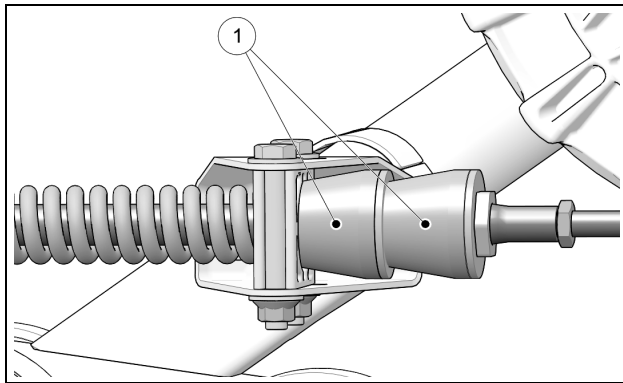

Figure 40
Check wear and damage on rubber dampers (1) mounted on the stabilizing arms. Replace them if they show cracks or are excessively worn or deformed. See Figure 40.